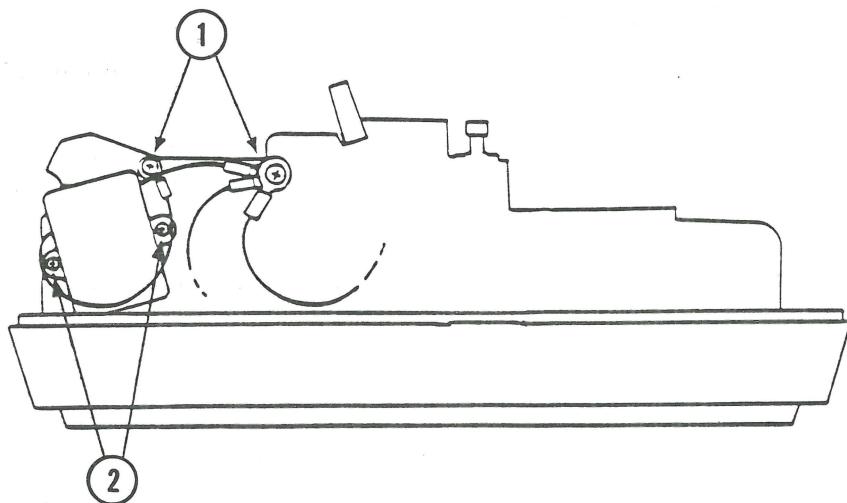

FIGURE 33
4. Remove the screws and washers (Figure 33, #1) holding ground straps to the side frame.
5. Remove the two screws (Figure 33, #2) from the noise filter.